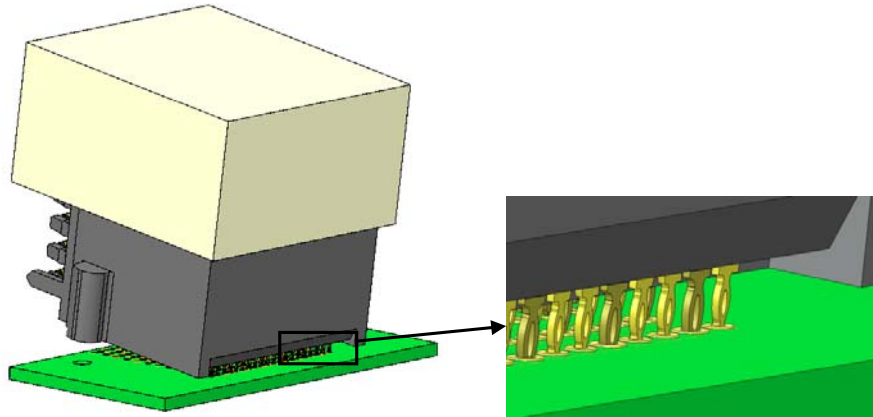

Figure 38: Last Row of EON tips Inserted into Last Row of PCB Vias
- Hold the connector at a slight angle so that the tips of the last row of press fit tails can be aligned and inserted into the last row of via holes on the PCB. Refer to figure 38.